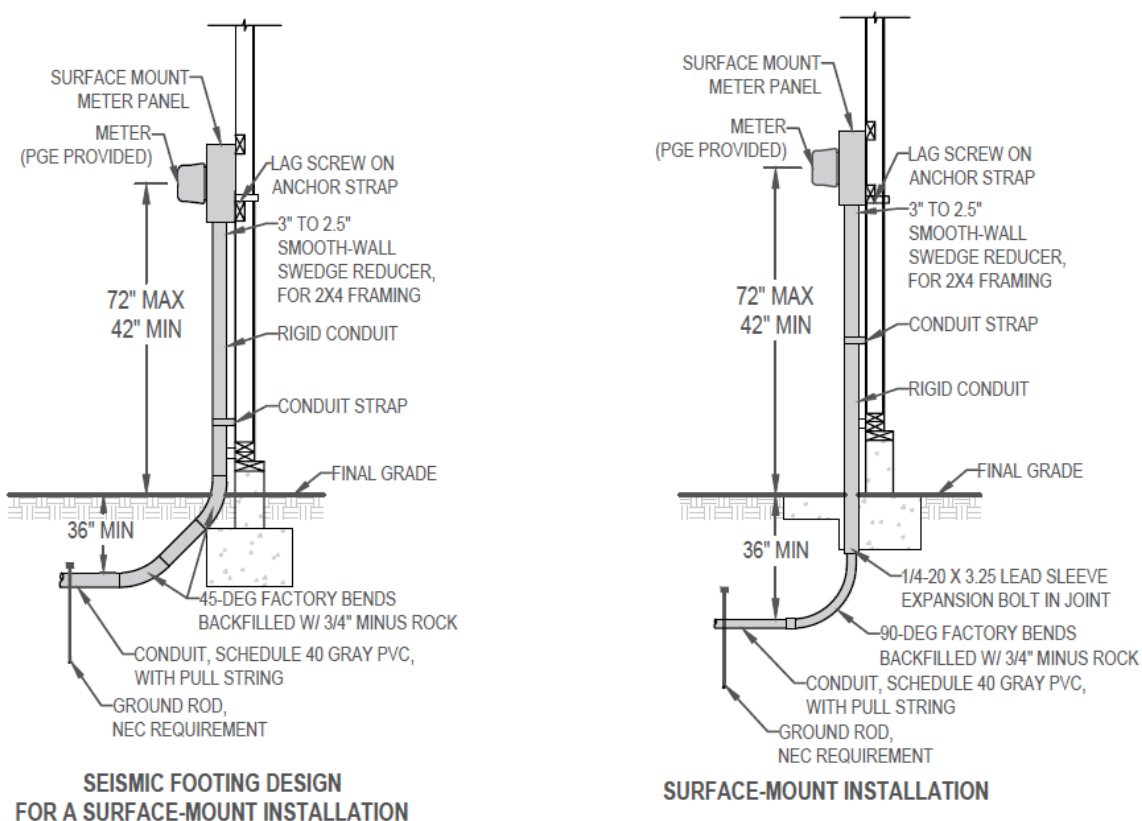

Figure 61. Surface-Mount Installation (Right) and Seismic Footing Design (Left) (STD-D-6008)
- No bends are allowed in the conduit riser between the meter socket and the underground sweep. If local codes do not allow conduit in the foundation or footing, a surface-mount meter must be installed (see Figure 61).